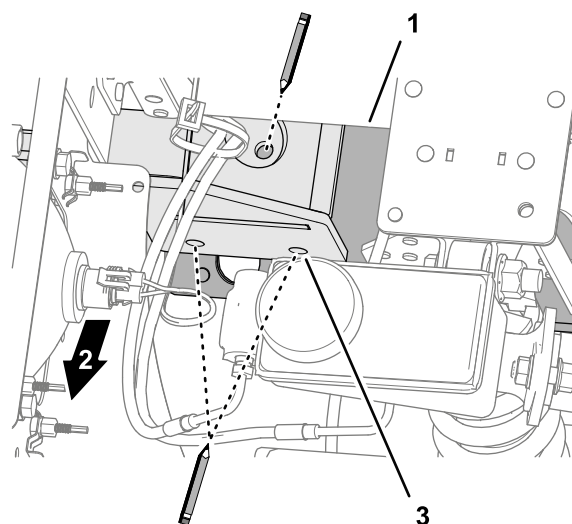
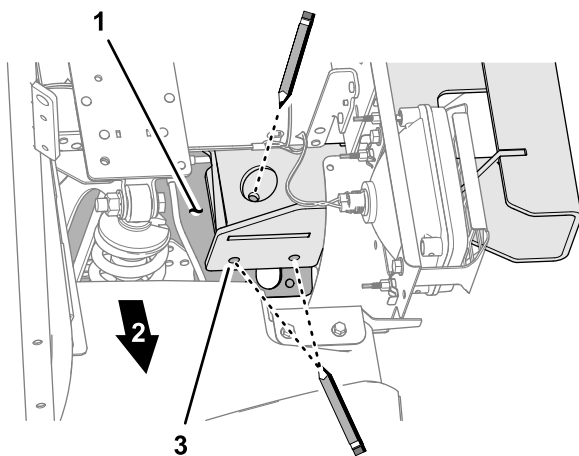

Figure 54
Figure 55
2. Mark the 6 hole locations of the bottom bracket onto the center-channel plate as shown in figures Figure 53, Figure 54, and Figure 55.